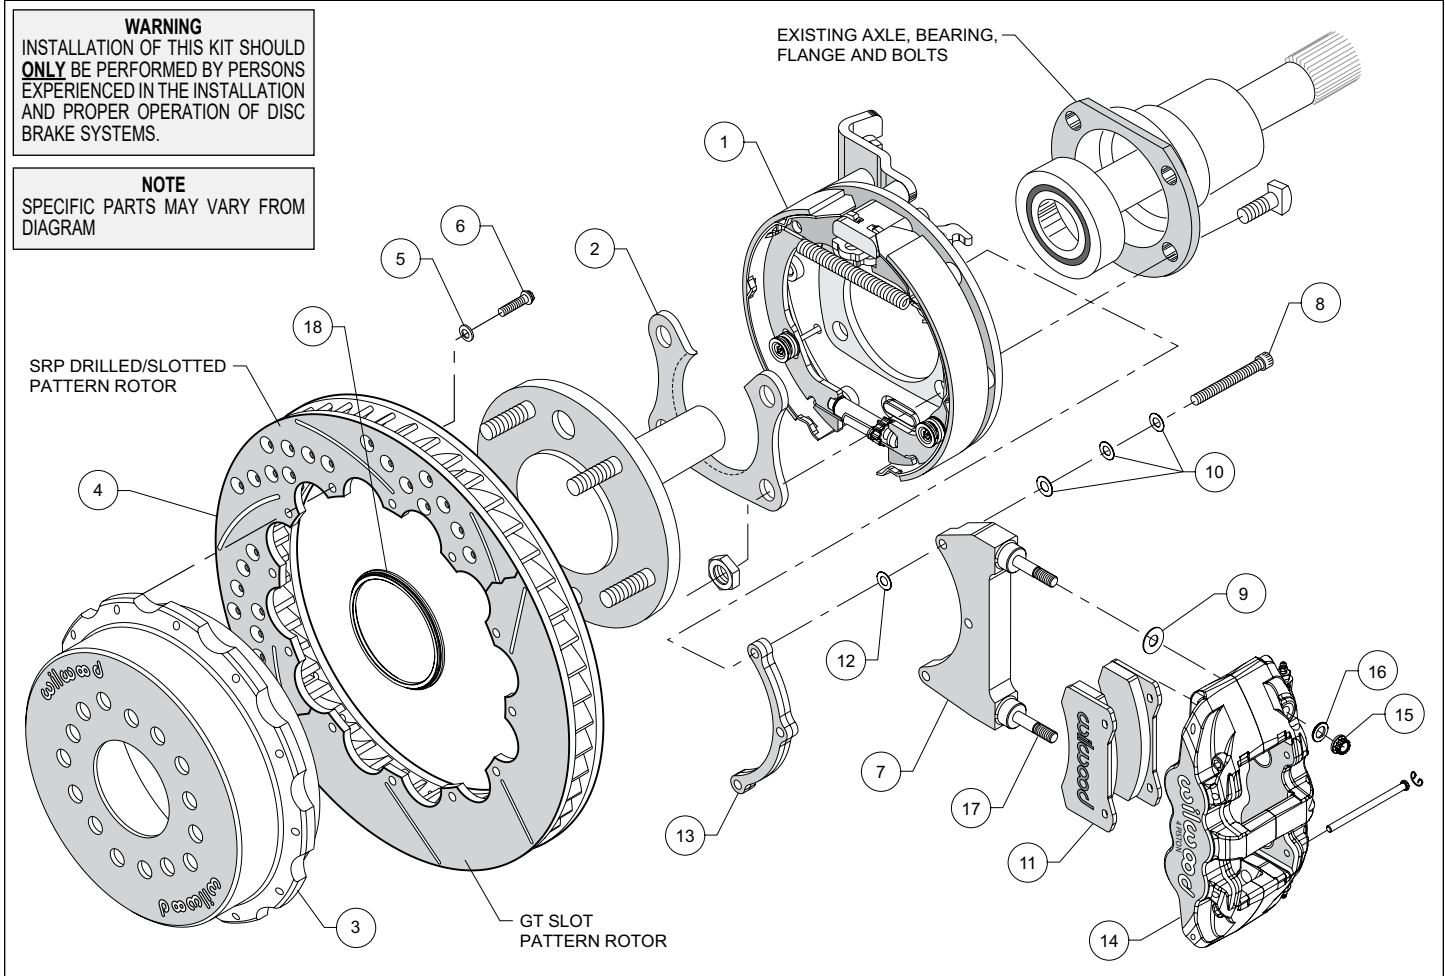

Figure 1. Typical Installation Configuration
- Orient the bracket assembly (1) as shown in Figure 1, and slide it onto the axle flange. Ensure that the bracket assembly backing plate fits flush against the housing flange. Insert the axle shaft into the axle housing.
- Install the bearing retainer (2) with the opening pointing upward and the lip facing inward (toward the bearing), as shown in Figures
1 and 4. Secure using the Original Equipment Manufacturer (OEM) bolts and nuts, Figure 1. Apply red *Loctite*® 271 to the OEM bolt threads and torque to OEM specifications.
•**NOTE:** Please reference the caution statement at the beginning of the assembly instructions. The caliper mounting bracket assembly (7) should be installed first with clean, dry threads on the mounting bolts (8). Install the bracket from the rear side of the bracket kit assembly (1) by sliding bolt (8) through three flat washers (10), bracket (7), shim washer (12) and finally through the spacer (13), see Figure 1. **NOTE:** End of bolt should not exceed inside face of insert. The bracket must tighten squarely against the back side of the bracket kit assembly (1). Inspect for interference from casting irregularities, machining ridges, burrs, etc. Use one thin shim (12) between the bracket (7) and spacer (13) during initial trial fitting.
•Lubricate caliper mounting studs and nuts with lightweight oil. Install one shim (9) over each pre-installed stud (17) on the radial mount bracket (7). Slide the caliper (14) in place over the studs and rotor, then install the washer (16) and lock nut (15) to hold the caliper in place. The caliper bleed screws should be pointing up. Snug the lock nuts (15) and check that the rotor (4) is centered in the caliper (14). Add or subtract .015" shims (12) as necessary between the caliper mounting bracket (7) and the spacer (13) to center the caliper (9).
•Remove the two pad retaining pins from the caliper (14) by carefully popping out the pin retaining clips and sliding out the pins. Insert the brake pads (11) into the caliper from the bottom, Figure 1. With the friction material facing the rotor, secure the brake pads in place with the pad retaining pins and clips. Reinstall the caliper onto the caliper mounting bracket and temporarily tighten the lock nuts. Check that the top of the brake pad is flush with the outside diameter of the rotor. If not, adjust by adding or subtracting shims (9) between the caliper and the bracket.
•Adjust the parking brake shoes outward (using a drum shoe adjustment tool available at your local auto parts store) while spinning the hat (3) until a slight drag is felt against the hat/drum. Remove the lug nuts that were holding the hat/rotor in place. Install the wheel and lug nuts. Check to see that the wheel rotates freely without interference.
•Once all clearances have been checked, remove the wheel, caliper, hat/rotor from the bracket kit assembly (1). Secure the